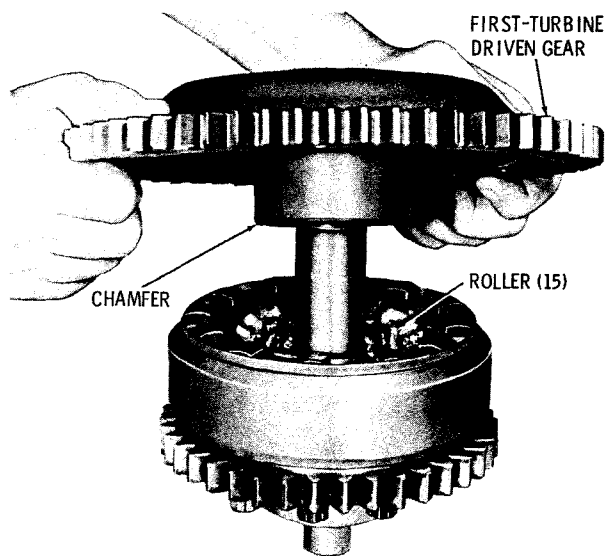

Fig. 6-14. Installing first-turbine driven gear
(8) Install the first-turbine driven gear by placing the lead chamfer on the gear hub against rollers, and while pressing downward, rotate the first turbine driven gear in a counterclockwise direction (fig. 6-14).